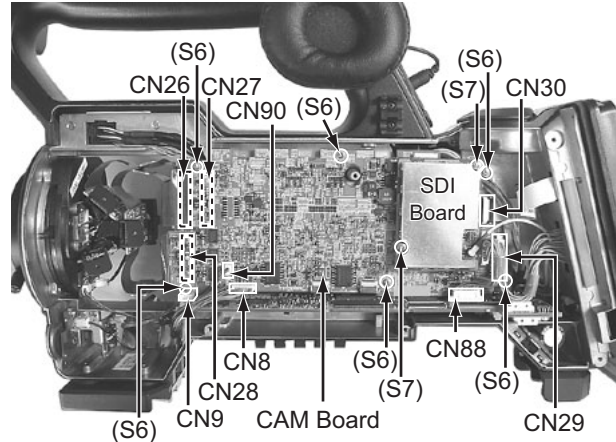
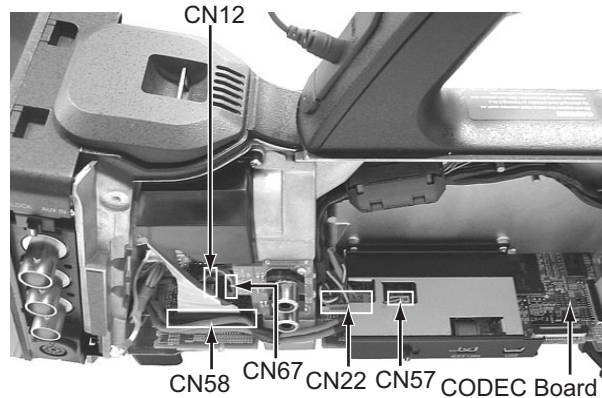
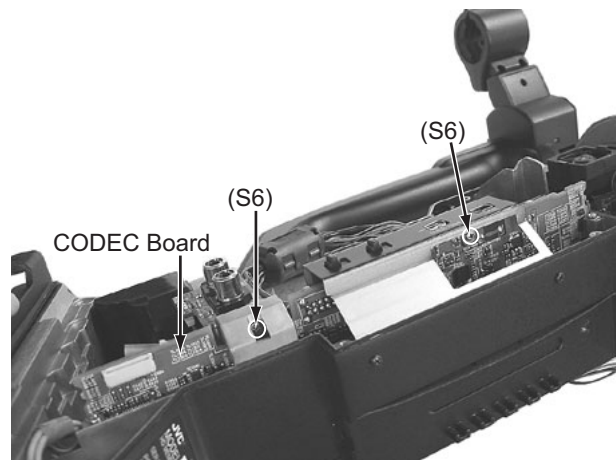
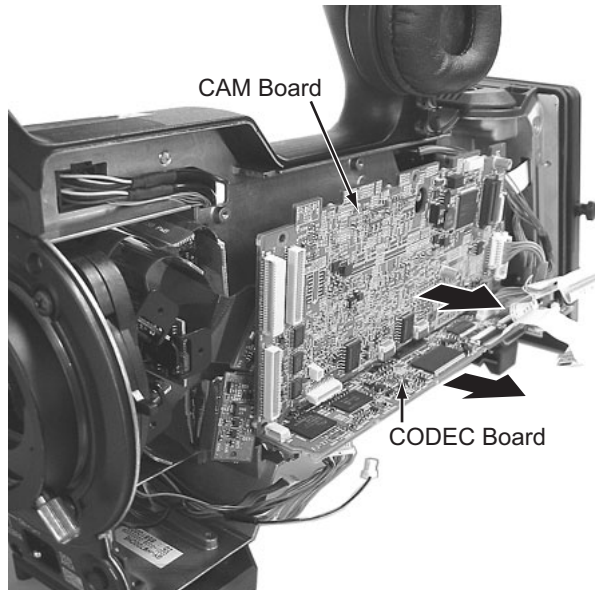

Fig.18
Fig.19
Fig.20
Fig.21
3.4.3 Removing the CAM board, SDI board and CODEC board (See figure 18, figure 19, figure 20, figure 21 and figure 22)